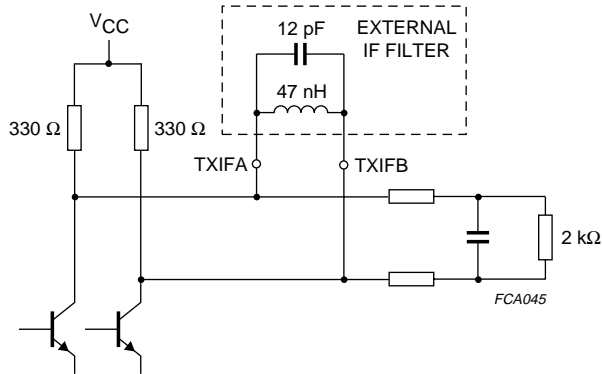

Fig.4 I/Q modulator output.
12. With specified LC tuned circuit ( $33\text{ nH}$ ,  $15\text{ pF}$ ) connected as shown in Fig.4.